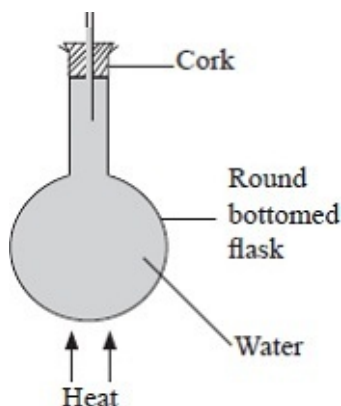

Fig. 6.13: Expansion of water
- Fill a flask with coloured water and arrange the apparatus as shown in figure 6.13.